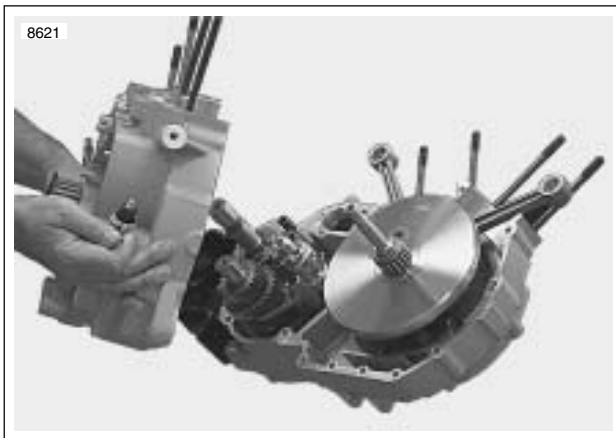

Figure 6-52. Separating Crankcase Halves
17. See Figure 6-52. Separate crankcase halves.